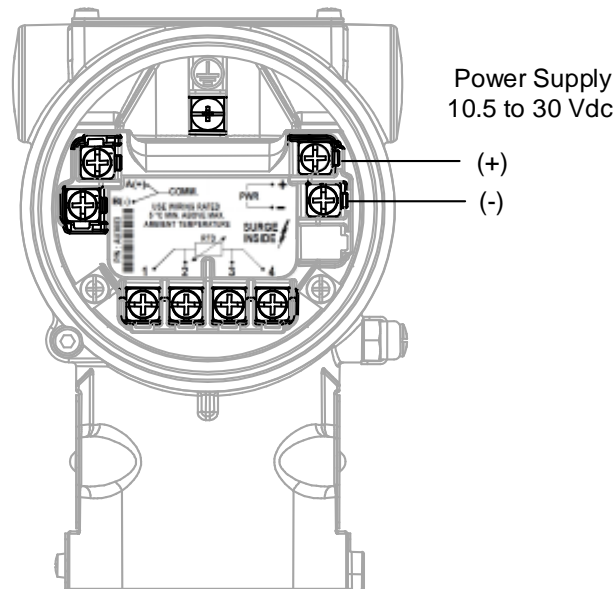

Figure 51: Transmitter power connections
- b. Compare the actual wiring to the termination identification printed on the block (Figure 51). Verify that the wiring is correct, the terminal screws are tight, and the supply lines are firmly connected.